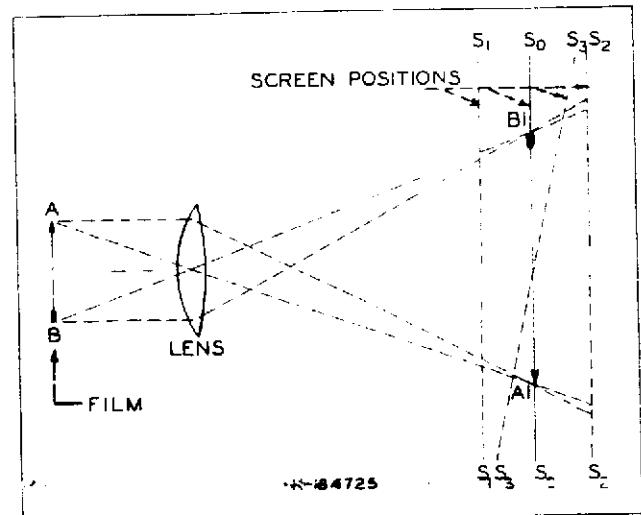

Figure 11—Formation of an Image
29. The projection of motion pictures on a screen is based on the principle of the formation of an image by a convex lens. This principle is illustrated in figure 11. Let AB represent any lighted subject, for example an illuminated film. Some of the rays of light from A are intercepted by the lens and are brought together at point A1 on the opposite side of the lens. For simplicity, only two rays are shown, one passing through the edge of the lens and the other through its center. Point A1 is the image of point A. In a similar manner, point B1 is the image of point B in the object. Every point in the object is represented by a point in the image.
31. The screen should be at right angles to the lens axis. Tipping the screen as indicated at  $S_3-S_2$ , results in a picture which is out of focus at the top and at the bottom, although it may be sharp at the middle. Figure 11 also shows that the rays cross as they pass through the lens; therefore the image on the screen is inverted with respect to the film. In other words, the picture on the film should be upside down.
32. In a motion-picture projector each frame of the film is projected in the same manner as the single object in figure 11. It is not held long, however, but is merely flashed on the screen for a small fraction of a second. It is immediately followed by the next frame on the film, which is shown for an equally brief interval. In sound-motion-picture projection, 24 frames are shown every second. But this does not imply that each frame is held on the screen  $1/24$  of a second. The actual time is about  $1/2$  of this, for the screen is darkened twice per frame, once while the film is moving forward and again while a frame is being held stationary in the projector. If the light were not cut off while the film is in motion, the picture on the screen would be streaked and blurred; and if it were not cut off at least once while each frame is still, an annoying flicker would result.